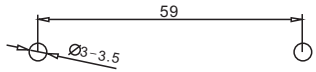

Figure 1
1. See figure 1, mounted on the wall with a pitch of 86mm screw expansion sleeve.